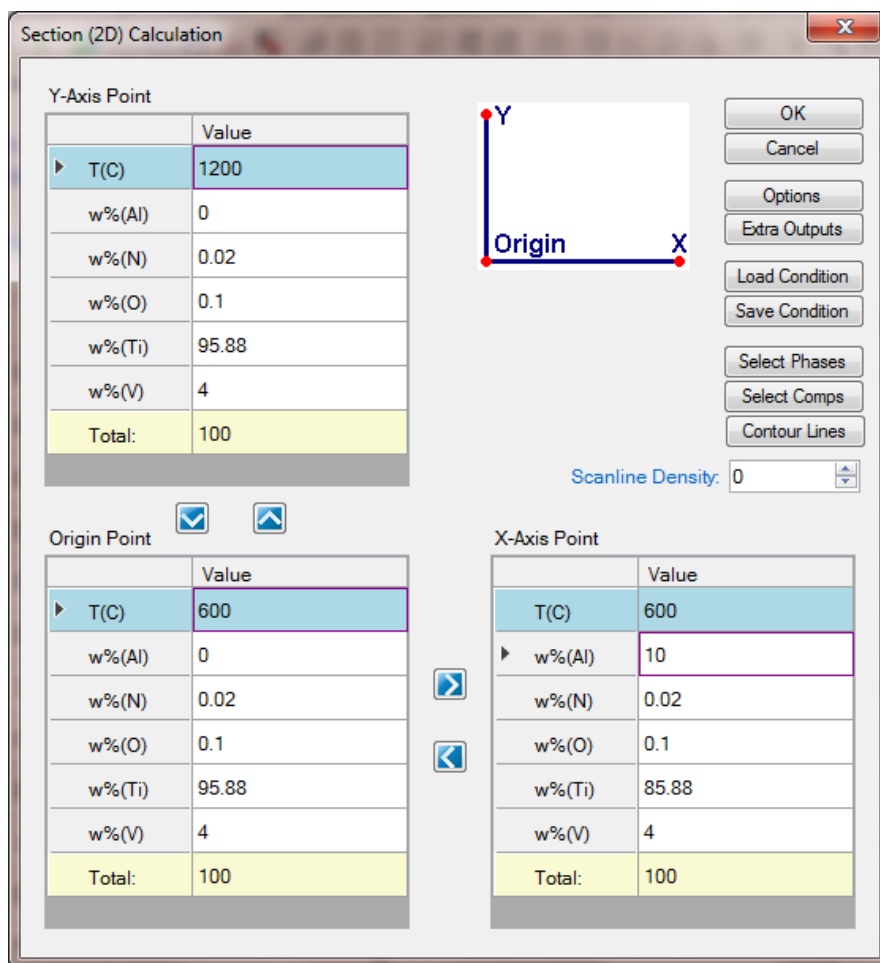

Figure 1.19.1: Setup a calculation for an isopleth along Ti-Al side with fixed V, O, and N compositions
- Perform a Section Calculation from PanPhaseDiagram, and set the calculation condition as shown in Figure 1.19.1;